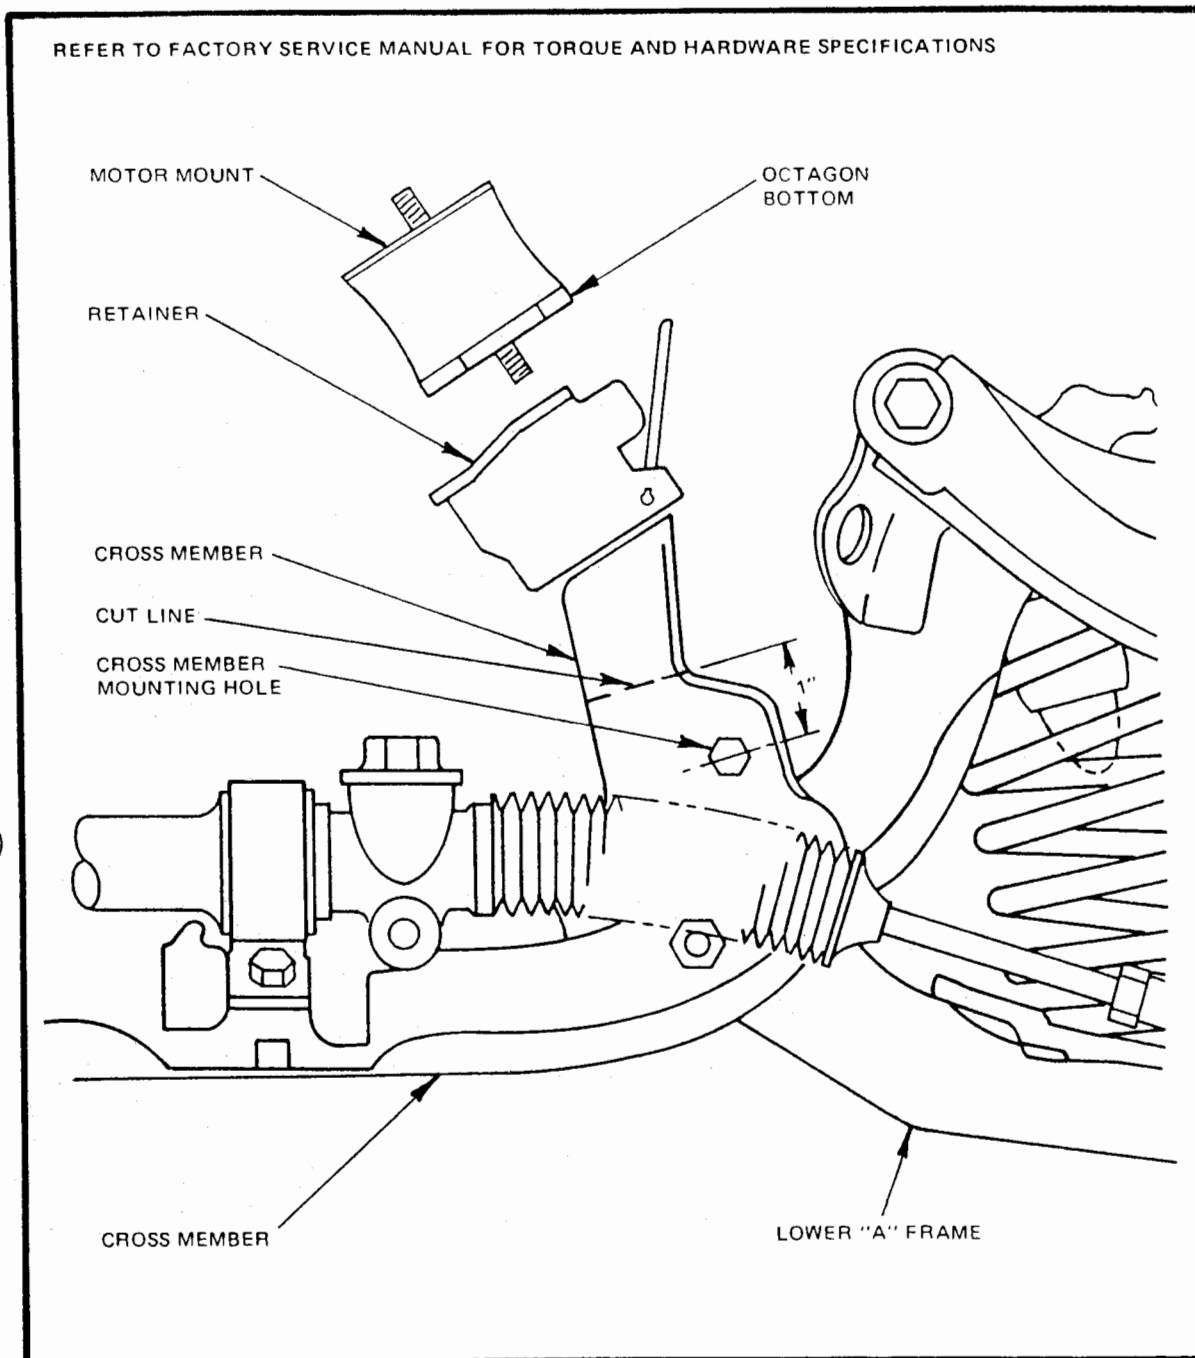

Figure 3
- Measure 1" above cross member mounting hole and cut using a sabre saw and metal cutting blade. See Fig. 3 and Fig. 4, View A.
- Insert long factory bolts into hole below cut section of cross member (Figures 3,4) Secure with factory nuts. Finger tighten.